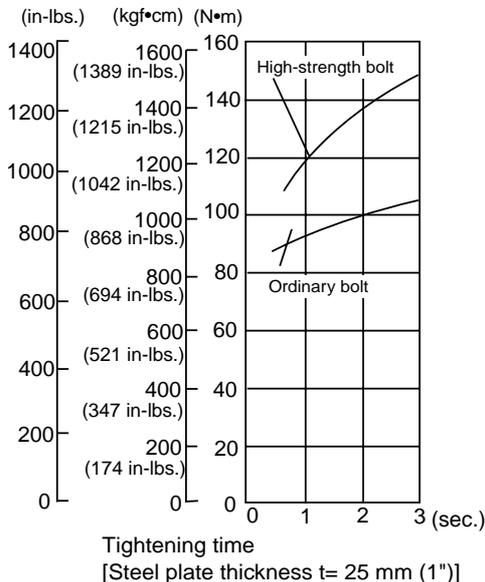

Fig. 6
Figure 6 shows relationships between time and tightening torque for individual bolt types and sizes. While the data are useful for handy reference, actual tightening torque will vary depending on tightening conditions and other variables. For details, please refer to Para. 7-3, Tightening Torque Variation.
- In the tightening conditions shown in Fig. 6, the screws are being tightened directly into a steel plate; accordingly, the torque goes up very abruptly in comparison with ordinary bolt tightening conditions.